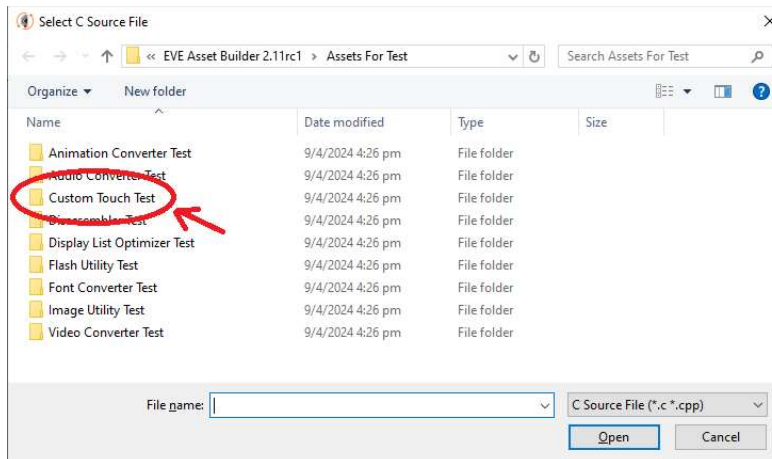

Figure 5 – EVE Asset Builder – Select C Source File
3. A Pop-up menu appears to select the desired source file. The user can either navigate to the desired folder where the user's C source file is located or navigate to the "Custom Touch Test" where the sample files are located as shown in Figure 5.